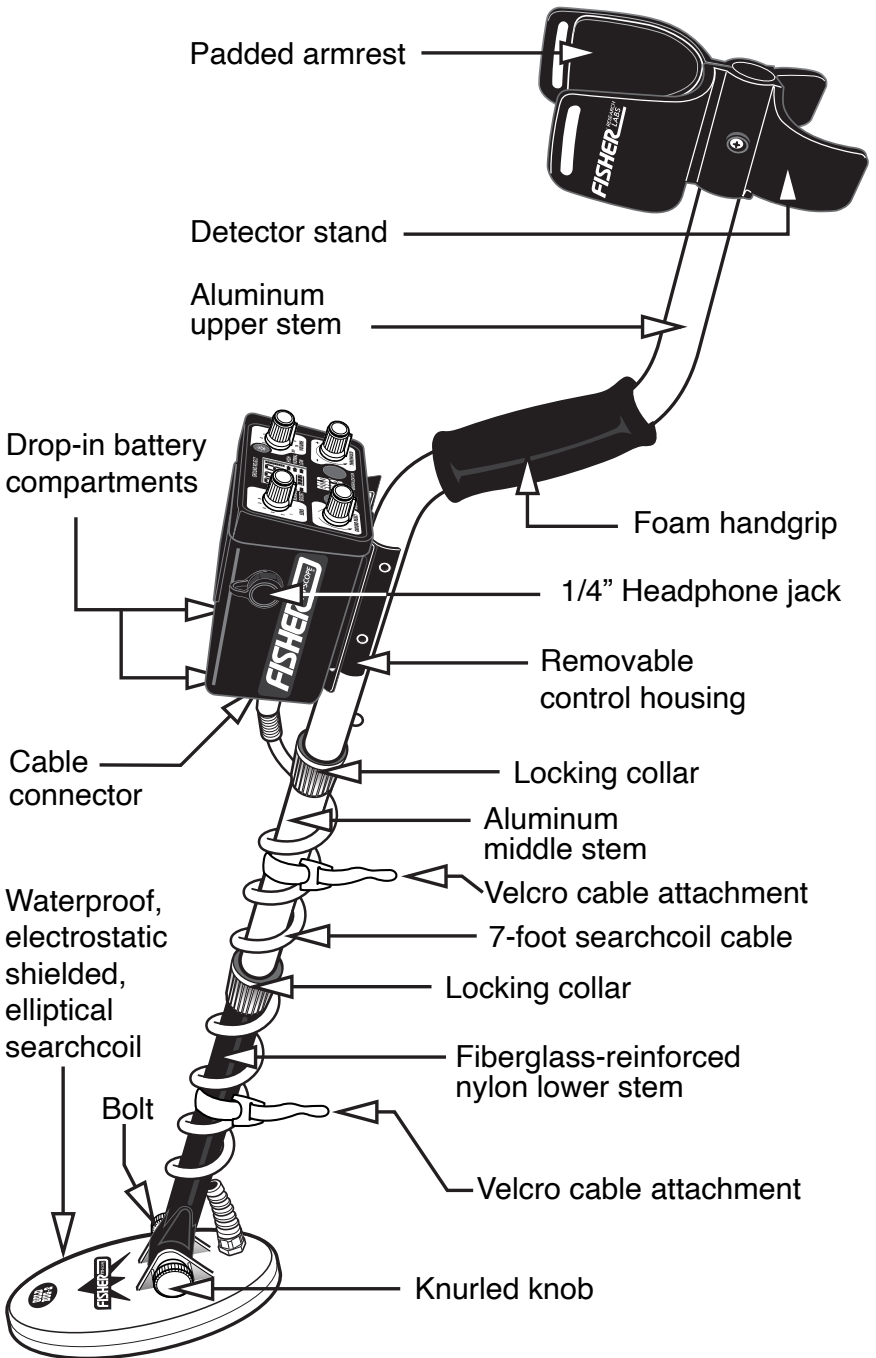

Figure 1. GoldBug2
2. Connect lower, middle and upper stems (see pg. 5 Figure 1).